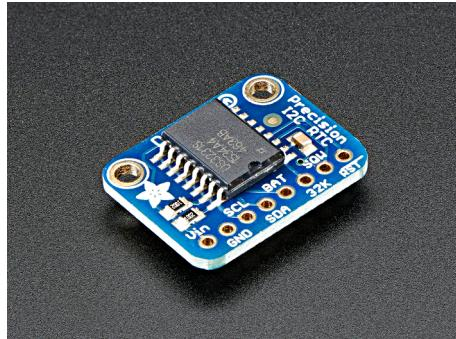

Figure 41: The DS 3231 hardware clock from Adafruit. Photo taken from www.adafruit.com.
- A DS 3231 precision hardware clock from Adafruit; this is a battery powered clock featuring temperature compensation. Fig. 41 shows this component which is about 15 €. A CR1210 battery is also needed.